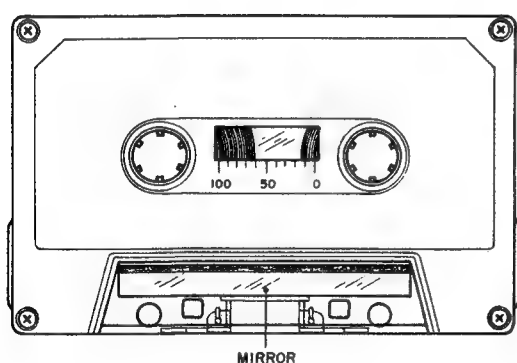

Fig. 13 Mirror Cassette
- 1) When using an ordinary cassette, the tape guides and heads, etc. are not visible. As shown in Fig. 13 use a cassette tape from which part of the cassette case has been cut out and a mirror installed for easy visibility of the head area when making tape guide height adjustment.
- 2) To adjust the height of Tape Guide (A), take the height of the Tape Guide (B) as the standard height. Normally do not adjust the height of the combined erase head and Tape Guide (B). Adjust the height of the Tape Guide (A) in the PLAY mode so that the tape runs smoothly without getting caught in a tape guide.
- 3) When changing the erase head, adjust the height of the Tape Guide (A) completely before changing
4. When a mirror installed cassette test tape as shown in Fig. 13 is required, it can be ordered from AKAI Electric Co.